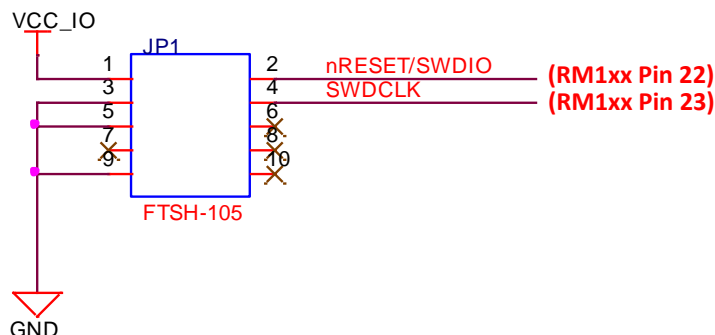

Figure 7: Wiring for 2-Wire SWD Programming/Debug Interface connector to SWD Programming/Debug interface on RM1xx module
**Note 1:** Reference the RM1xx development board schematic. Figure 7 shows the wiring for the 2-Wire SWD Programming/Debug Interface connector and RM1xx module hidden 2-Wire SWD Programming/Debug Interface pins.